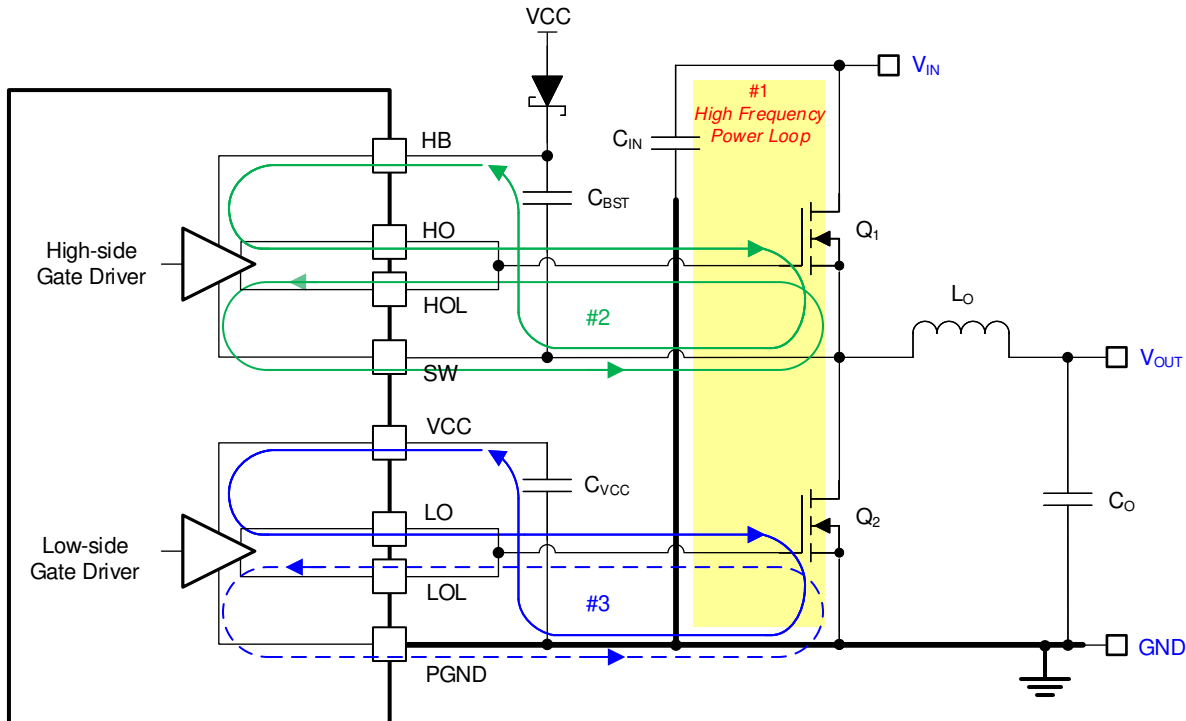

图 11-1. DC/DC Regulator Ground System With Power Stage and Gate Drive Circuit Switching Loops
Proper PCB design and layout is important in a high-current, fast-switching circuits (with high current and voltage slew rates) to achieve a robust and reliable design. As expected, certain issues must be considered before designing a PCB layout using the LM5143-Q1. The high-frequency power loop of a buck regulator power stage is denoted by loop 1 in the shaded area of 图 11-1. The topological architecture of a buck regulator means that particularly high di/dt current flows in the components of loop 1, and it becomes mandatory to reduce the parasitic inductance of this loop by minimizing its effective loop area. Also important are the gate drive loops of the low-side and high-side MOSFETs, denoted by 2 and 3, respectively, in 图 11-1.
- Loop 1: The most important loop area to minimize is the path from the input capacitor or capacitors through the high- and low-side MOSFETs, and back to the capacitor or capacitors through the ground connection. Connect the input capacitor or capacitors negative terminal close to the source of the low-side MOSFET (at ground). Similarly, connect the input capacitor or capacitors positive terminal close to the drain of the high-side MOSFET (at V_{IN}). Refer to loop 1 of 图 11-1.